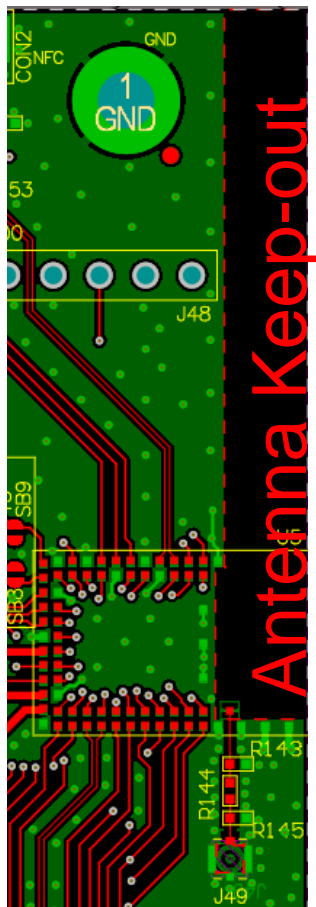

Figure 13: PCB trace Antenna keep-out area (shown in red), corner of the BL653 development board for the 453-00039 module.
- The BL653 development board has the 453-00039 module on the edge of the board (not in the corner). The antenna keep-out area is defined by the BL653 development board which was used for module development and antenna performance evaluation is shown in Figure 13, where the antenna keep-out area is ~5 mm wide, ~39.95 mm long; with PCB dielectric (no copper) height ~1 mm sitting under the 453-00039 PCB trace antenna.
- Host PCB land pattern and antenna keep-out for the BL653 applies when the 453-00039 is placed in the edge of the host PCB preferably in the edge center. Figure 13 shows an example.